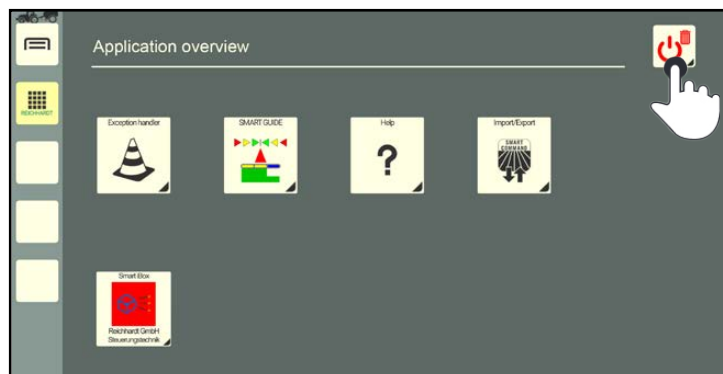

Fig. 93: Pressing and holding the Delete/Exit button
2. Press and hold the Delete/Exit button (see Fig. 93).